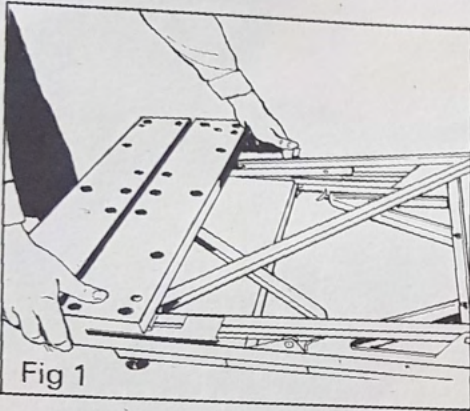

Fig 1
- 1 Lay the Workmate flat on the ground with the vice bars uppermost and nearest to you (Fig. 1).
- 2 Put one foot on the footboard beneath the vice bars and with the left hand release the locking catch (Fig. 1).